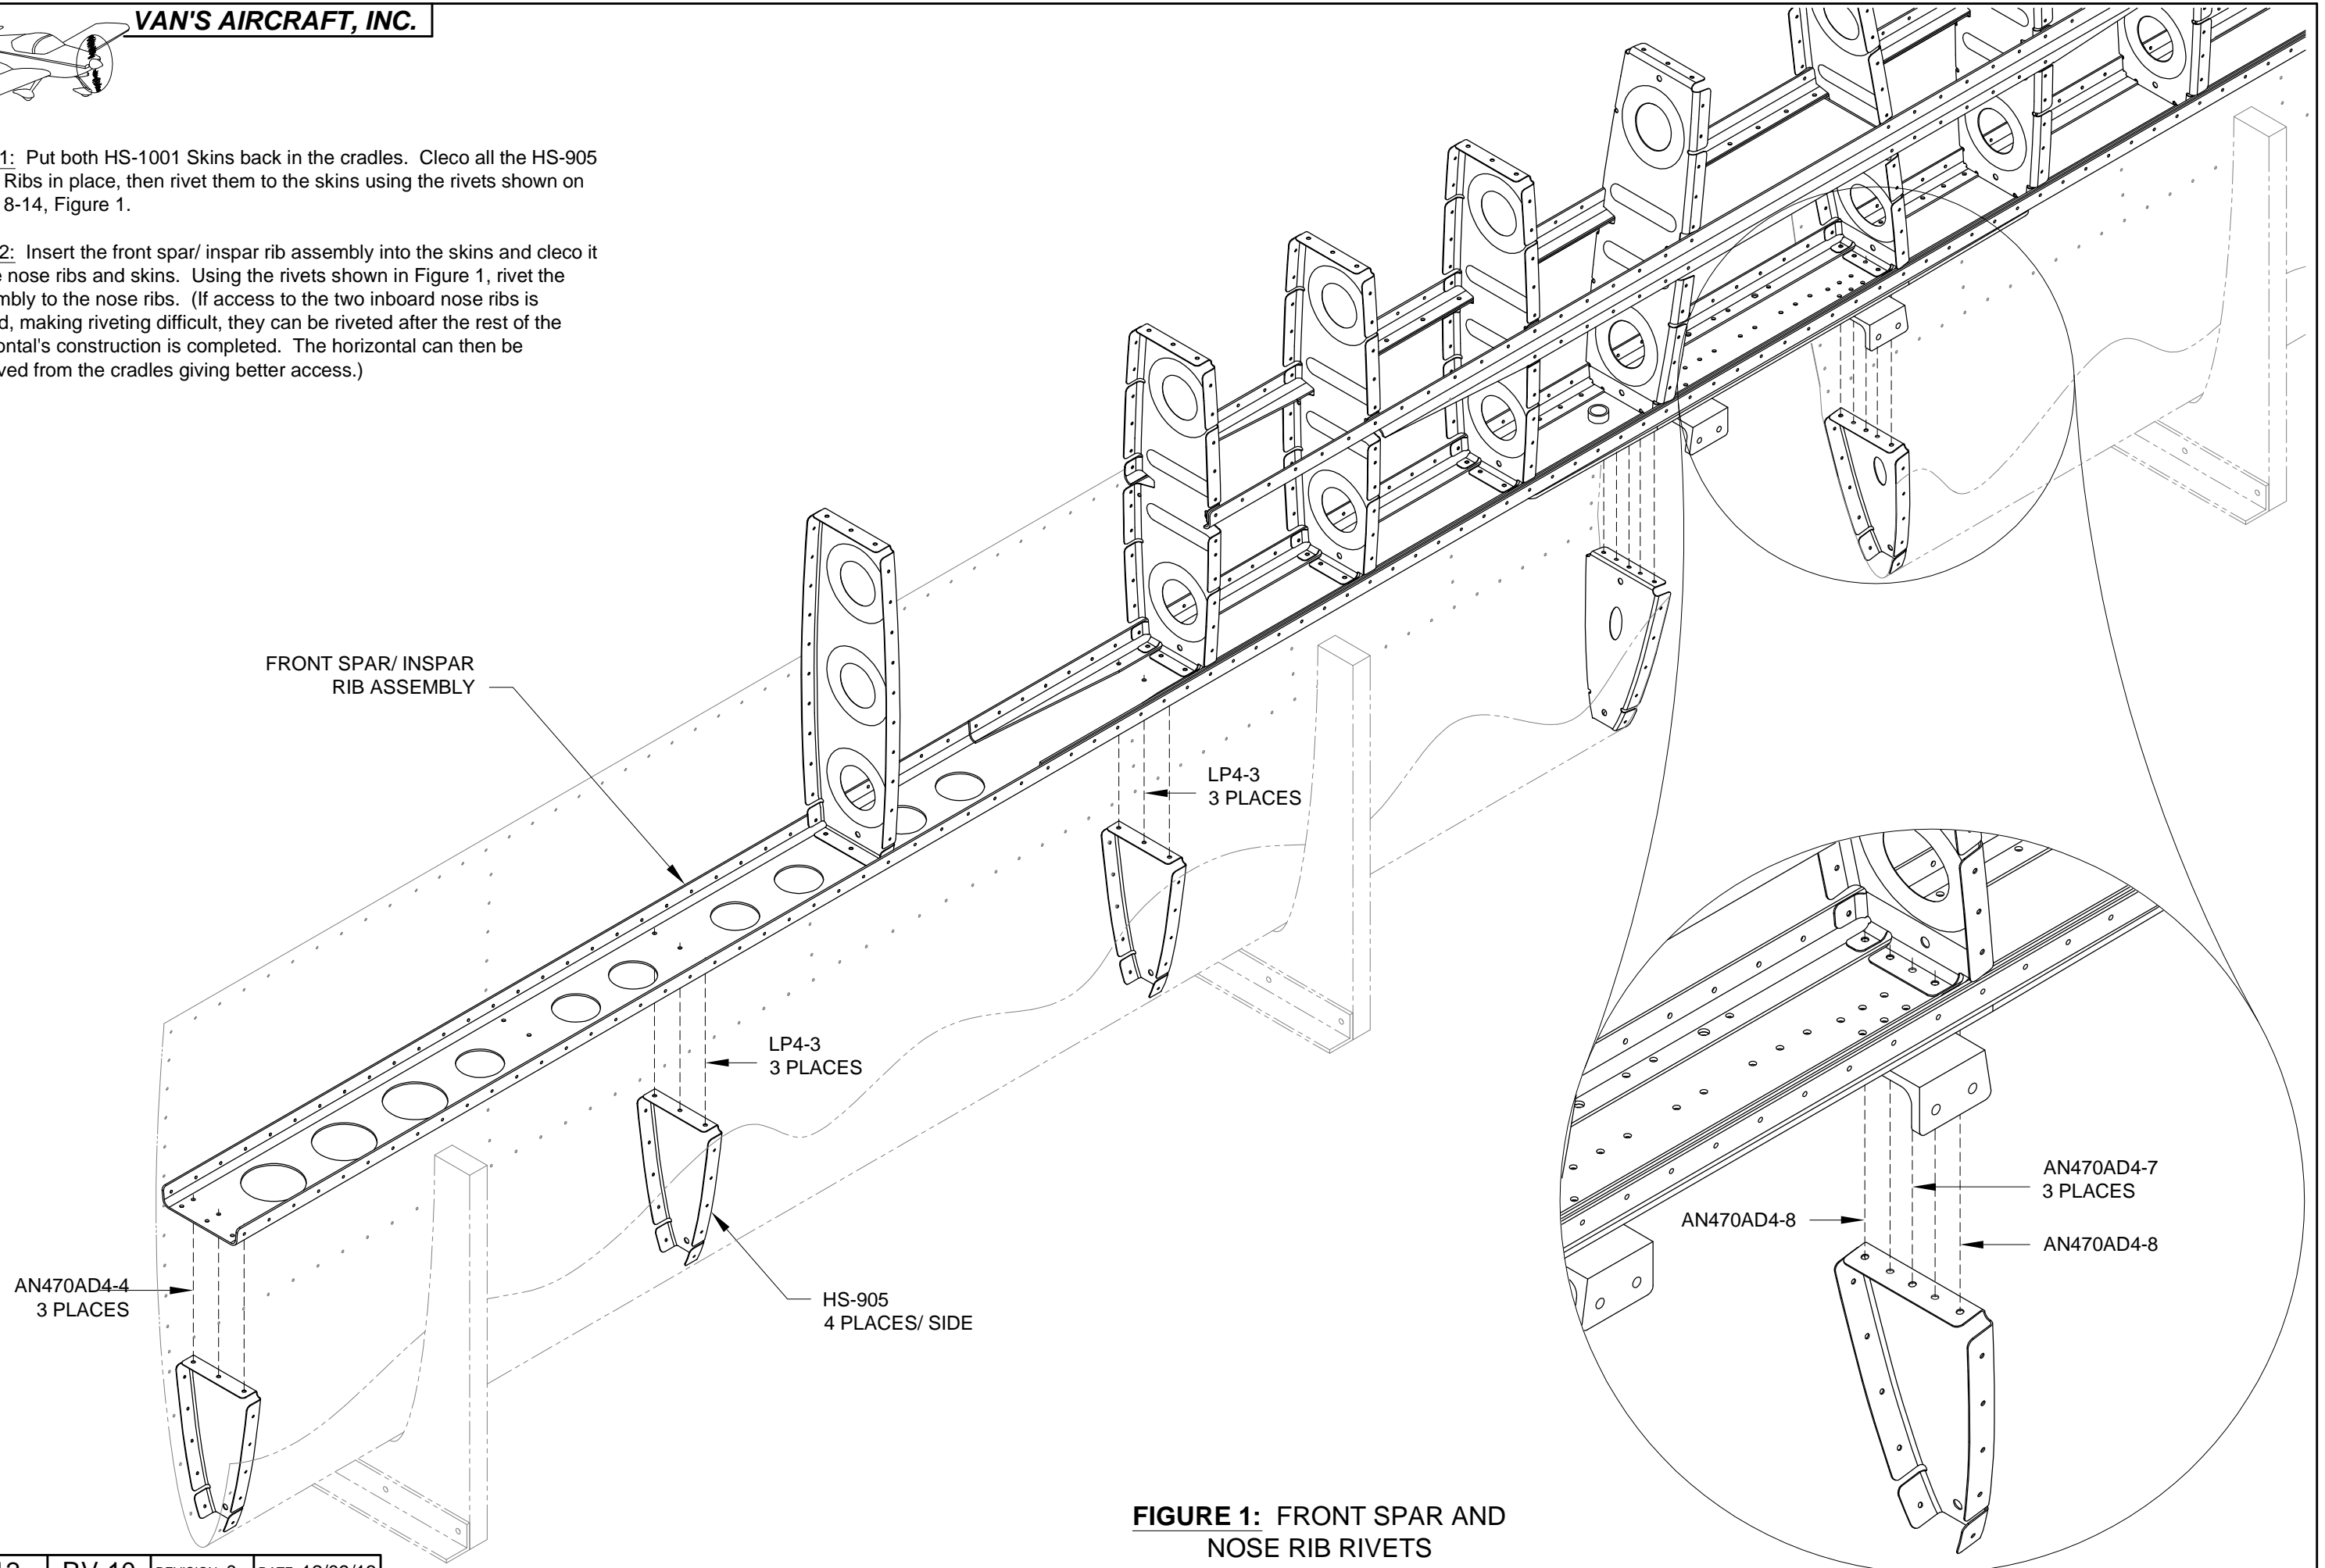

FIGURE 1: FRONT SPAR AND NOSE RIB RIVETS
**Step 1:** Using the rivets shown in Figure 1, rivet the last two HS-904 Inspar Ribs, on each side of the stabilizer, to the HS-1002 Front Spar web.
**NOTE:** The rivets used for the rest of the horizontal stabilizer can be found on Page 8-14, Figure 1.